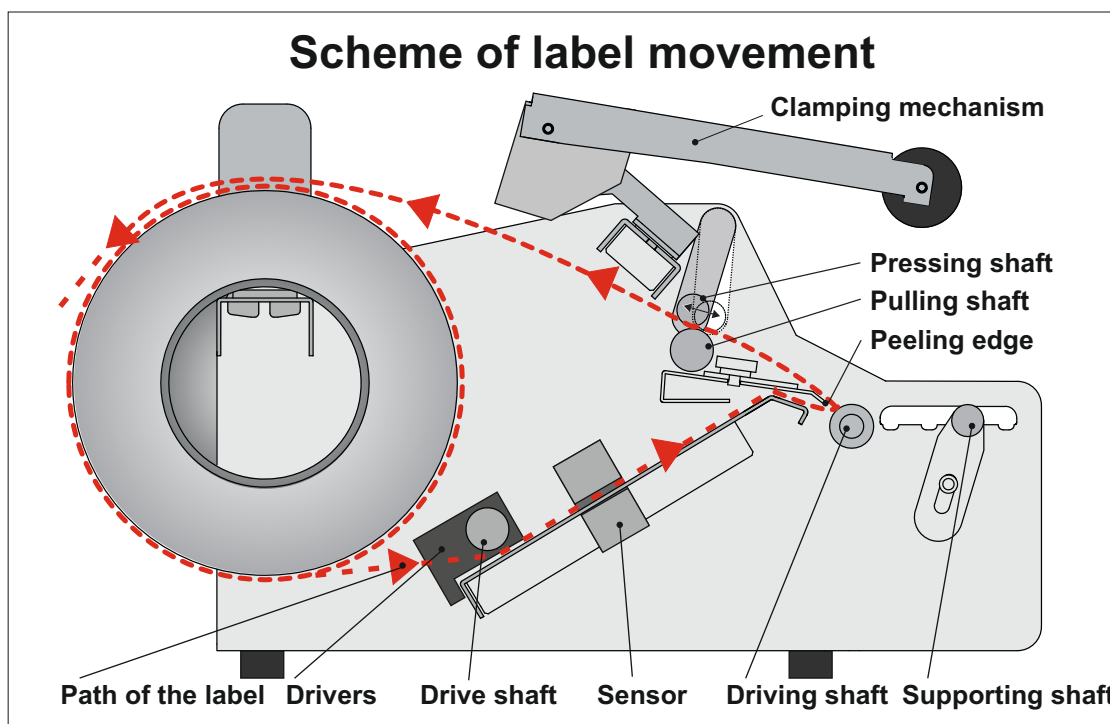

Figure 3.1
- Guide the label along the label path as shown by the red path in the diagram below (Figure 3.1).